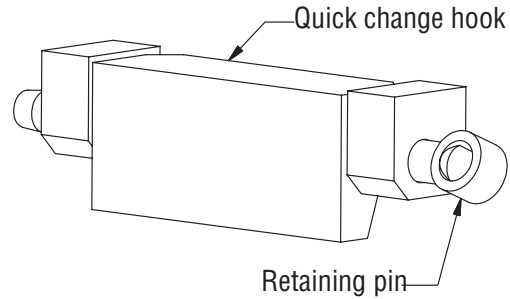

Figure 6-2, Quick Change Hook
4. Slightly raise the truck carriage to allow the removal of the bottom mounting hooks. If the attachment is equipped with Quick Change Hooks, simply remove retaining pin and pull lower hooks down. (See Figure 6-2)